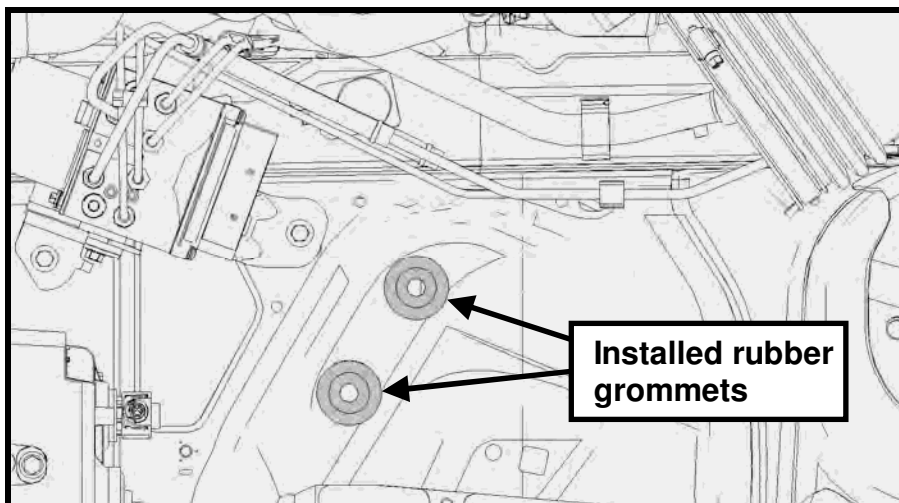

Fig. 10
STEP 7: Install the rubber grommets (previously removed from the factory airbox) into the holes located beneath the airbox, rearward of the ABS module (See Fig. 10).